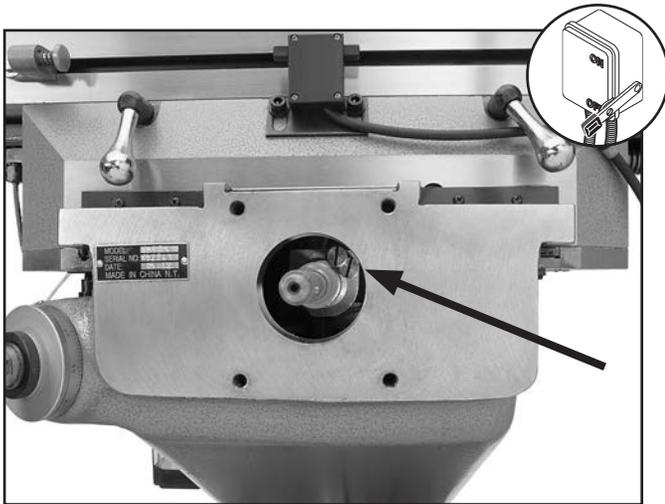

Figure 71. Y-axis lead screw adjusting screws.
- Looking into the cavity left by removing the mounting plate assembly, identify the two adjusting screws (see **Figure 71**).